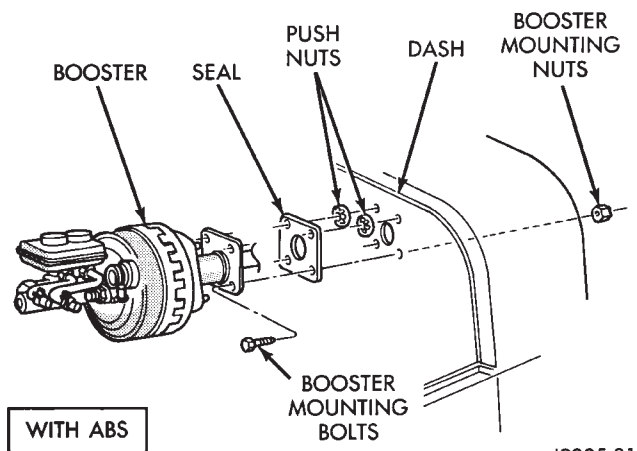

Fig. 9 Booster Attachment At Dash Panel—YJ Shown
- (1) Position booster on dash panel. Align booster mounting studs with holes in panel and seat booster (Fig. 9).